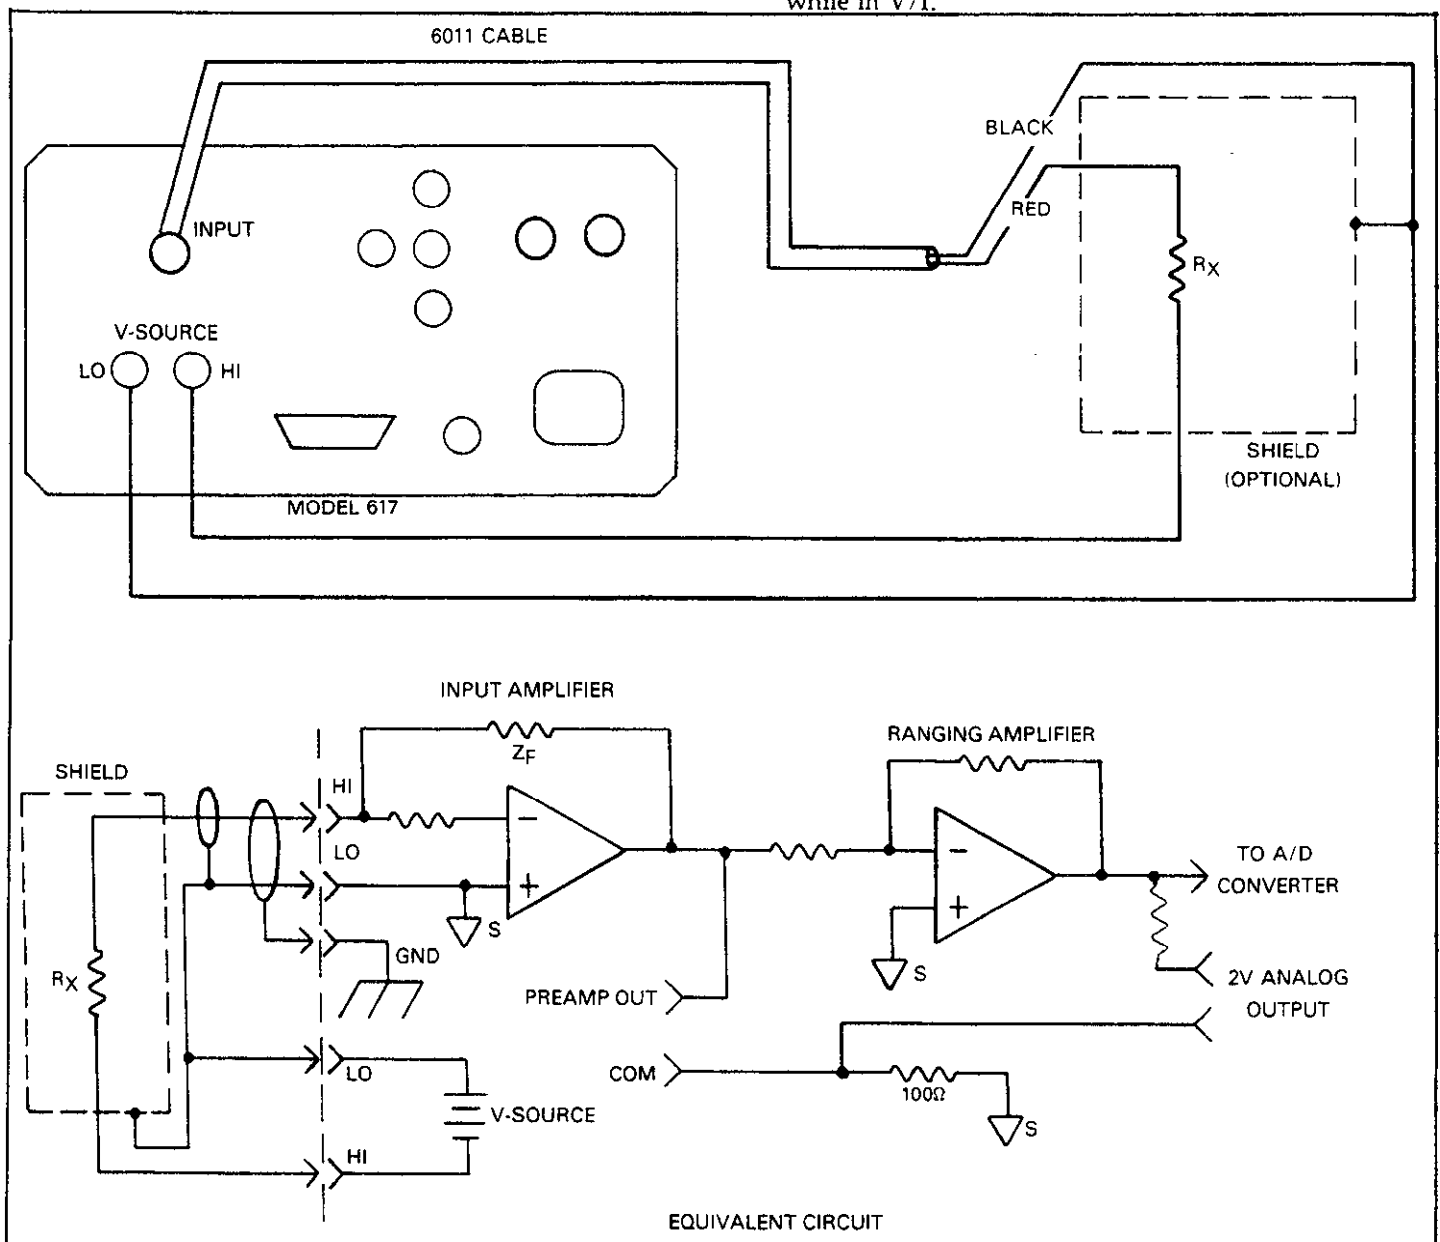

Figure 2-14. V/I Resistance Measurement Connections
5. Connect the voltage source and INPUT jack to the measured resistance, as shown in Figure 2-14. Use the Model 6011 or other similar triaxial cable to make the input connections.